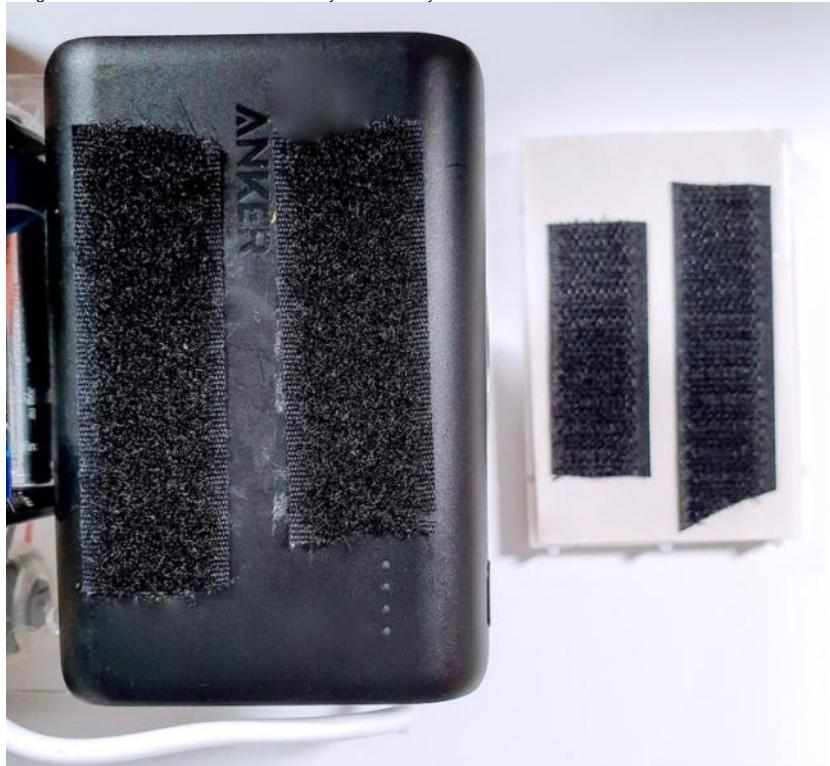

Figure 8.12 – Adding velcro strips
2. Now use two strips of Velcro to stick the breadboard on top of the robot's battery, as shown in *Figure 8.12*. The velcro holds firm but is easy to remove if you need to disassemble the robot: